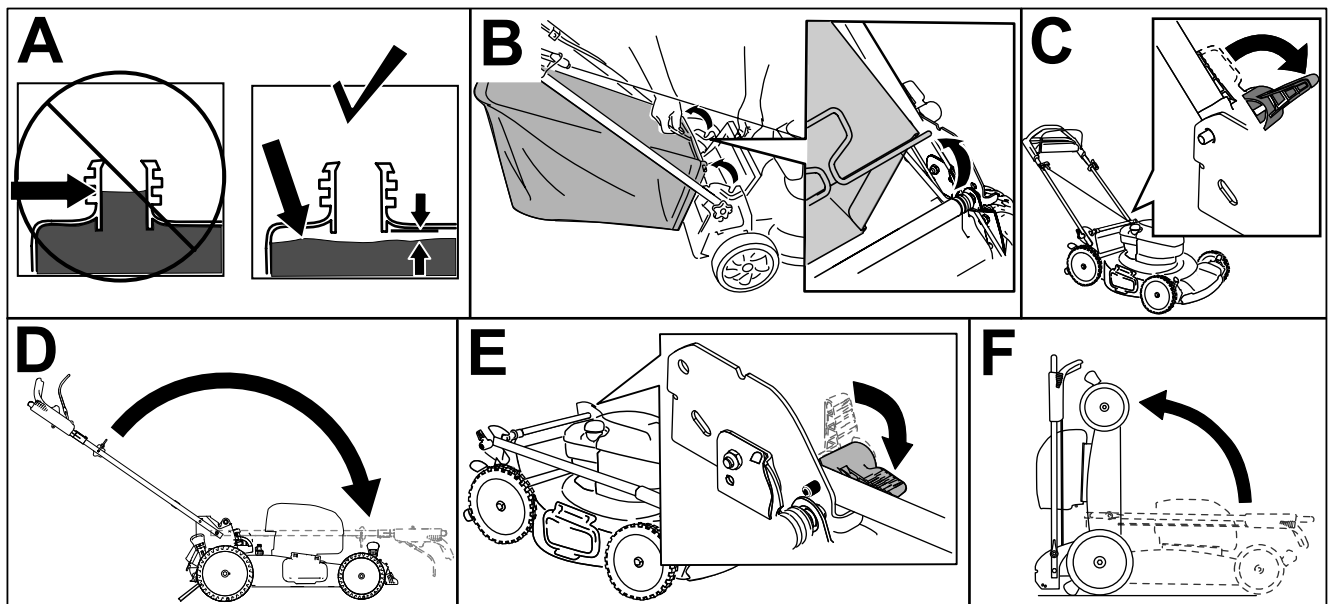

Figure 32
Note: If the level of fuel in the fuel tank is too high, drain the fuel from the fuel tank into an approved fuel container until it is at or below the level recommended by the engine manufacturer (A of Figure 32).
2. If the grass bag is on the machine, remove it (B of Figure 32).
3. Disengage the handle locks (C of Figure 32).
4. Fold the handle fully forward (D of Figure 32).
5. Engage the handle locks (E of Figure 32).
6. Lift the front of the machine by the handle and move it into a storage space (F of Figure 32).